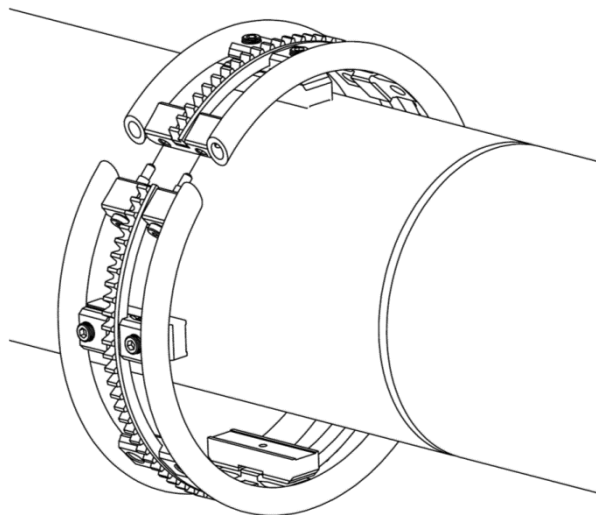

FIGURE 6 – ASSEMBLY STEP 3
3. Bring the second half of the track ring up to the pipe and secure the topmost joint by inserting and tightening the clamping screws through the tapped end cap into the threaded end cap (see Figure 6 - Assembly Step 3).